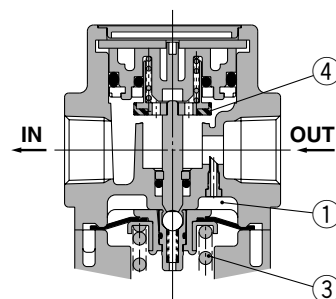

Figure 2 Backflow
When the inlet pressure is shut off and released, the check valve ② opens and the pressure in the diaphragm chamber ① is released into the inlet side (Figure 2).
This lowers the pressure in the diaphragm chamber ① and the force generated by the pressure regulator spring ③ lifts the diaphragm. Valve ④ opens through the stem, and the outlet pressure is released to the inlet side (Figure 2).